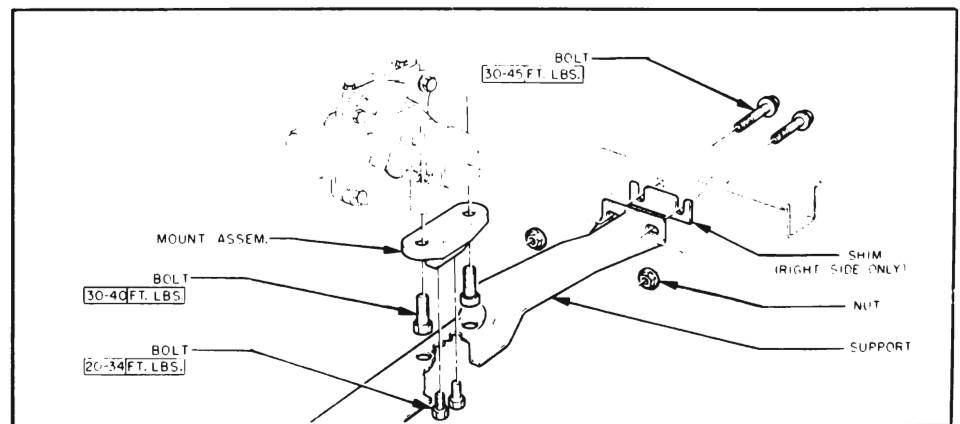

Figure 4-52—Four Speed Transmission Mounting
5. Remove three (3) metal boot retainer to floor plate attaching screws, slide boot over stick shift.
9. Remove two bolts attaching transmission mounting pad to transmission support. Leave mounting pad bolted to transmission. See Figure 4-52.